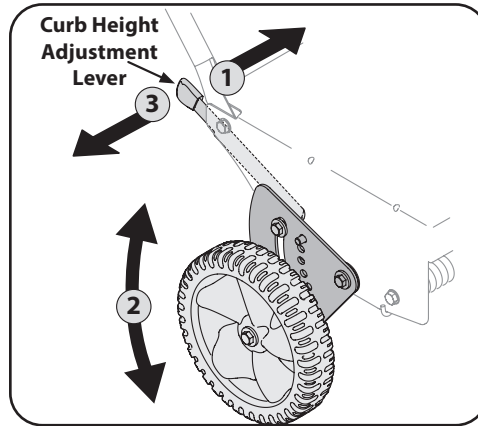

Figure 4
- Lower the right rear wheel by moving the curb height adjustment lever slightly to the left. See Figure 4.
- Release the curb height adjustment lever to lock the wheel in position. See Figure 4.